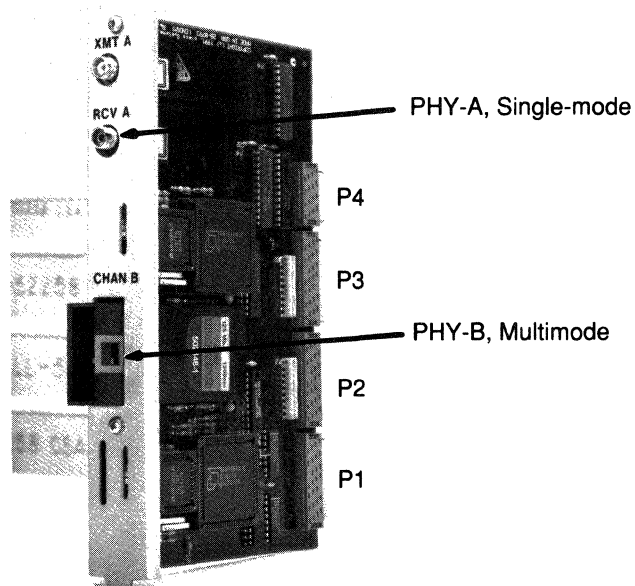

Figure 4-17 FDDI Appliance, Single Mode/Multimode
- PHY-A single mode, PHY-B multimode (APP-LSM)—see Figure 4-17.